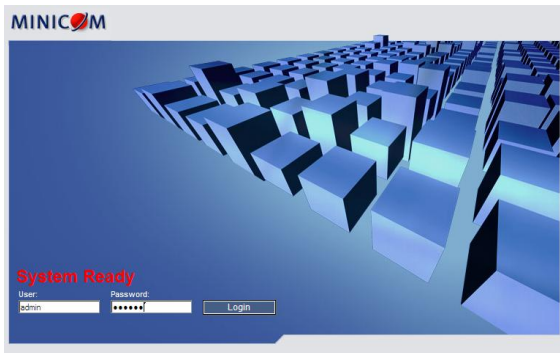

Figure 13 Login page
2. Type the Smart 216 IP system IP address – `http` or `https://IP address/` - and press **Enter**. The login page appears, see Figure 13.